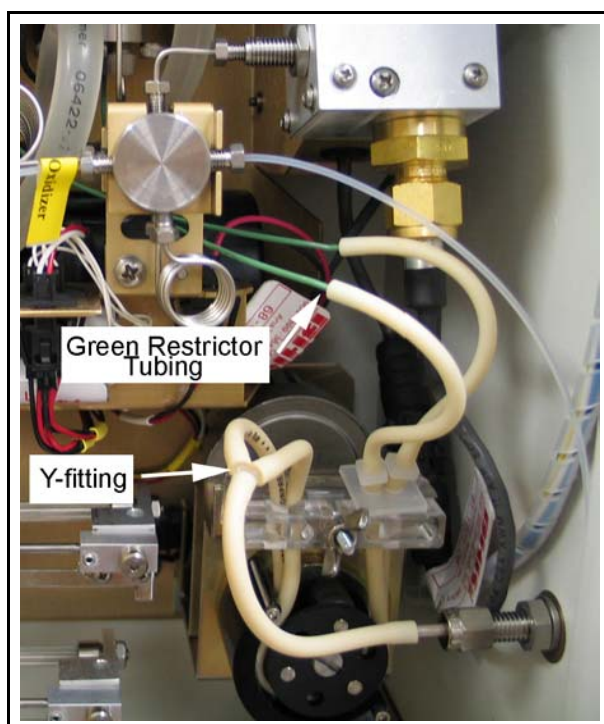

Figure 37: Preparing to Back Flush the Sample Side Fluidics
3. The first task is to test the sample side for an obstruction. Disconnect the two pieces of sample pump tubing from the Y-fitting. (See Figure 37.)